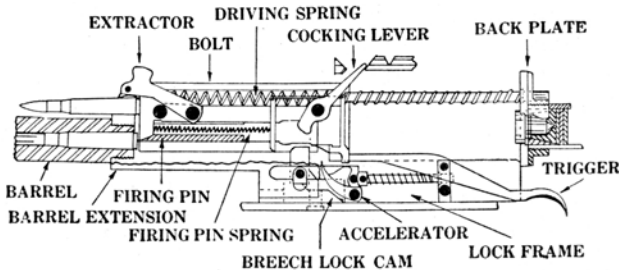

FIGURE 9.—Relation of parts in forward position.
■29. BACKWARD MOVEMENT OF RECOILING PARTS (figs. 9 and 10). — The explosion forces the recoiling parts (barrel, barrel extension, and bolt) backward about 5/8 inch. During the first half of this movement the parts are locked together.
■30. BACKWARD ACTION OF ACCELERATOR (figs. 9 and 10).—AS the accelerator turns backward its tips strike the bottom projections on the bolt and accelerate it to the rear.
■31. BACKWARD MOVEMENT OF BOLT (figs. 9 and 11).—As the bolt moves backward the driving spring is compressed. The bolt brings with it a cartridge from the belt, held by the extractor, and an empty case from the chamber, held in the T-slot. The extractor cam plunger rides along the top
■39. TRIGGER ACTION IN AUTOMATIC FIRE (figs. 9, 13, and 14).—If the trigger is